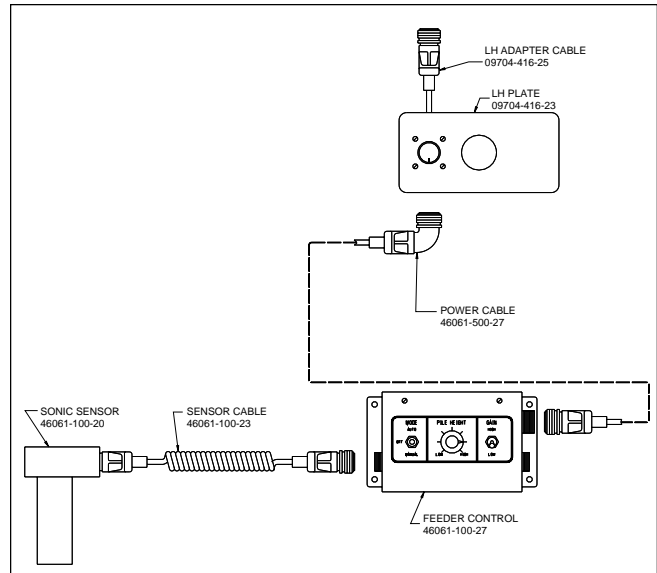

Figure 1
- 1) Plug one end of the power cable into the LH rear bulkhead of the tractor and the other end into the LH feeder control mounted on the screed (Figure 1). This cable can be left connected all the time.
- 2) Remove the protective cap from the LH side of the feeder control and plug in the coiled sensor cable (Figure 1).